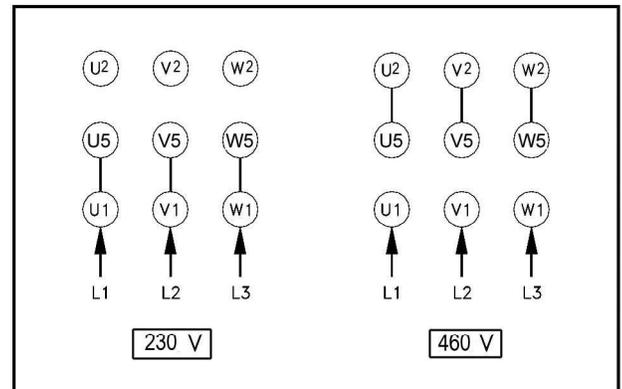

Figure 9-1: Main motor wiring
1. Open main motor junction box cover, and change leads based on wiring diagram inside cover. This diagram is also shown in Figure 9-1. (Note: In case of discrepancy, diagram inside junction box cover takes precedence.) Reinstall cover.